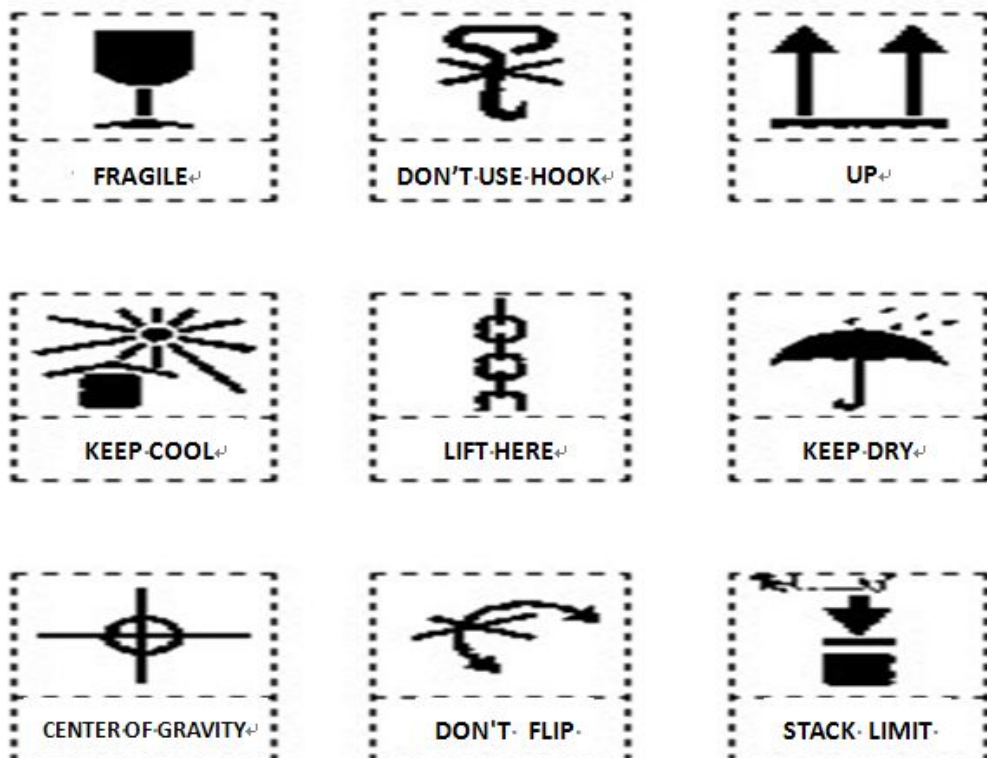

Figure 1
5.2.2.2 There are 9 items of packaging storage and transportation graphic symbol (Table 2), and the corresponding graphs are shown in Figure 1. Name and border of the symbol are not necessary during mark painting. The two symbols “Lift here” and “Center of gravity”, should be painted at the actual position on the package (like packing container, packing frame etc.).